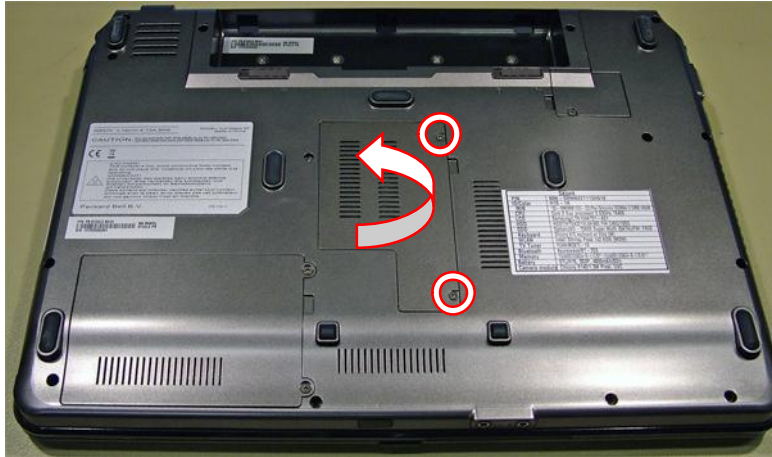

Fig. 5 Removing memory compartment cover.
2. Lift the cover upwards from the right. There are three tabs holding the cover in place on the left. Raise the cover until you can remove it from the casing (see Fig. 5).